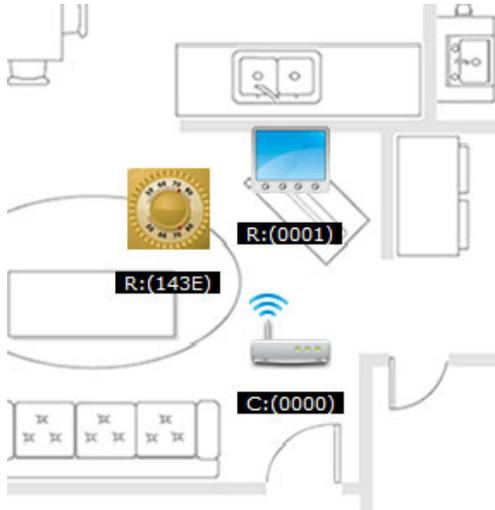

Figure 10. PCT Joined the Network as a New Node
- Wait until the node is detected in the ZeD GUI where it appears as a new icon as shown in Figure 10.